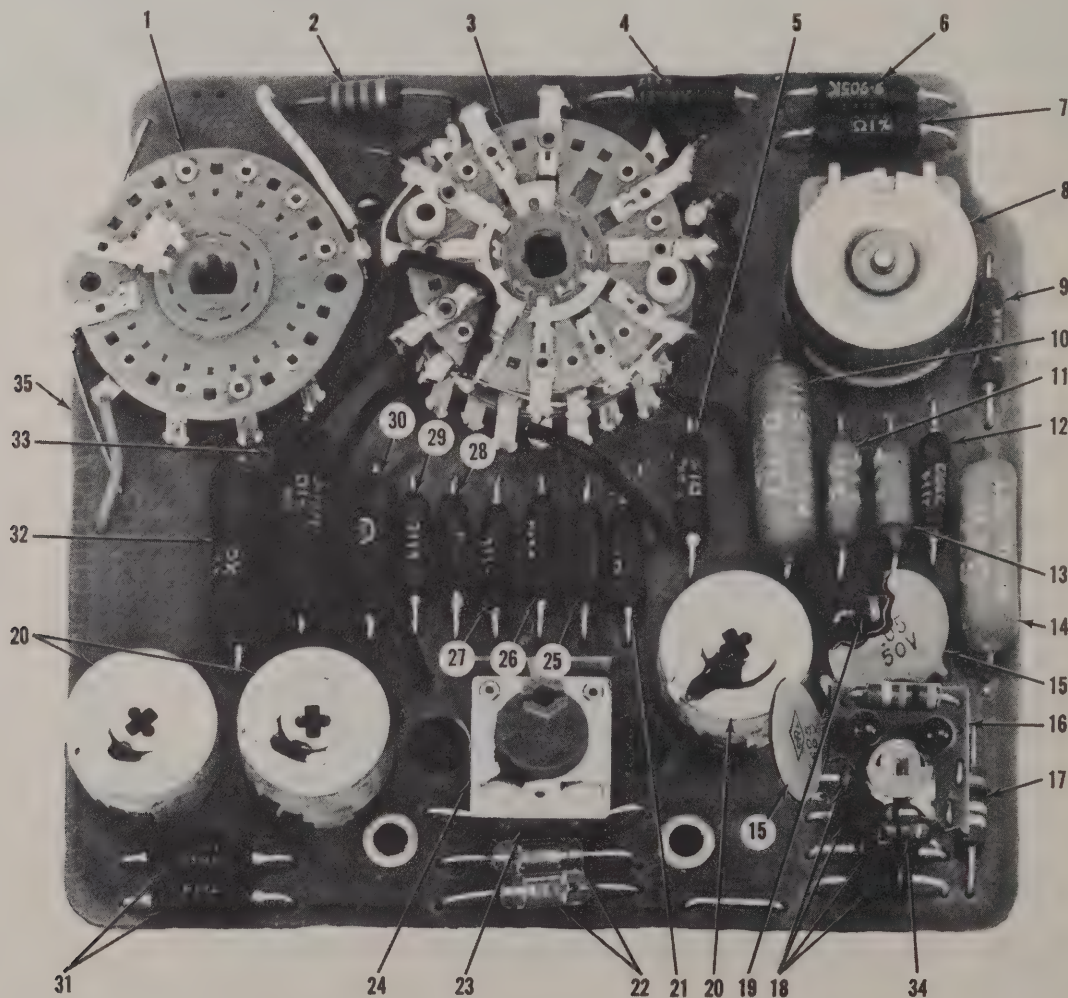

Figure 4-3. Printed Circuit Board Sub-assembly
If the Electronic Overload Switch Sub-Assembly (See item 16, figure 4-3) is replaced, calibrate the new switch as follows:
(See figure 4-3 for next higher assy).